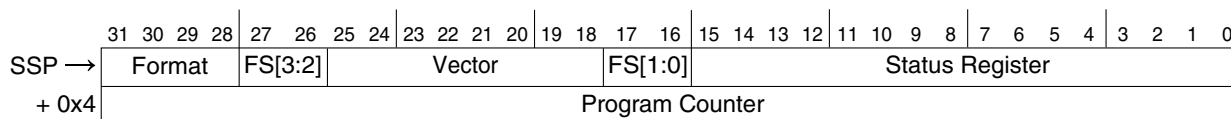

Figure 11-2. Exception Stack Frame Form
3. The processor saves the current context by creating an exception stack frame on the system stack. The exception stack frame is created at a 0-modulo-4 address on top of the system stack pointed to by the supervisor stack pointer (SSP). As shown in Figure 11-2, the processor uses a simplified fixed-length stack frame for all exceptions. The exception type determines whether the program counter placed in the exception stack frame defines the location of the faulting instruction (fault) or the address of the next instruction to be executed (next).